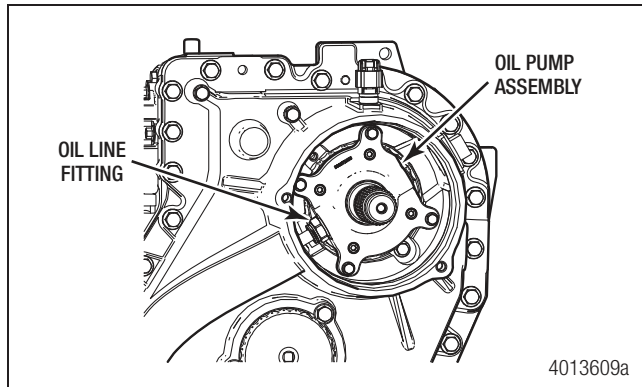

Figure 7.35
16. Install the four pump mounting screws and tighten to specification. Figure 7.35.